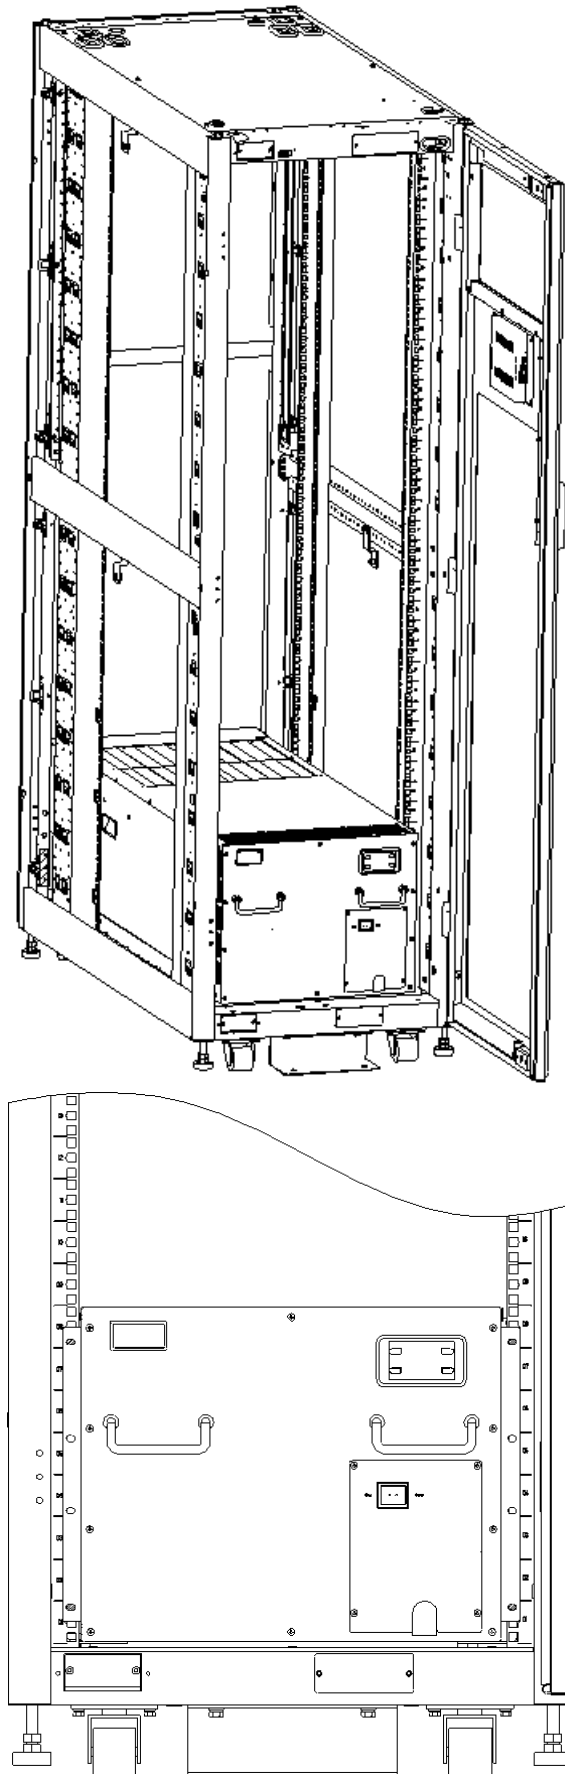

Fig. 3-3 Diagrammatic Sketch of Step 3
3. The air conditioner is pushed into the bottom of the cabinet along the guide rail and fixed with screws, as shown in Fig. 3-3.